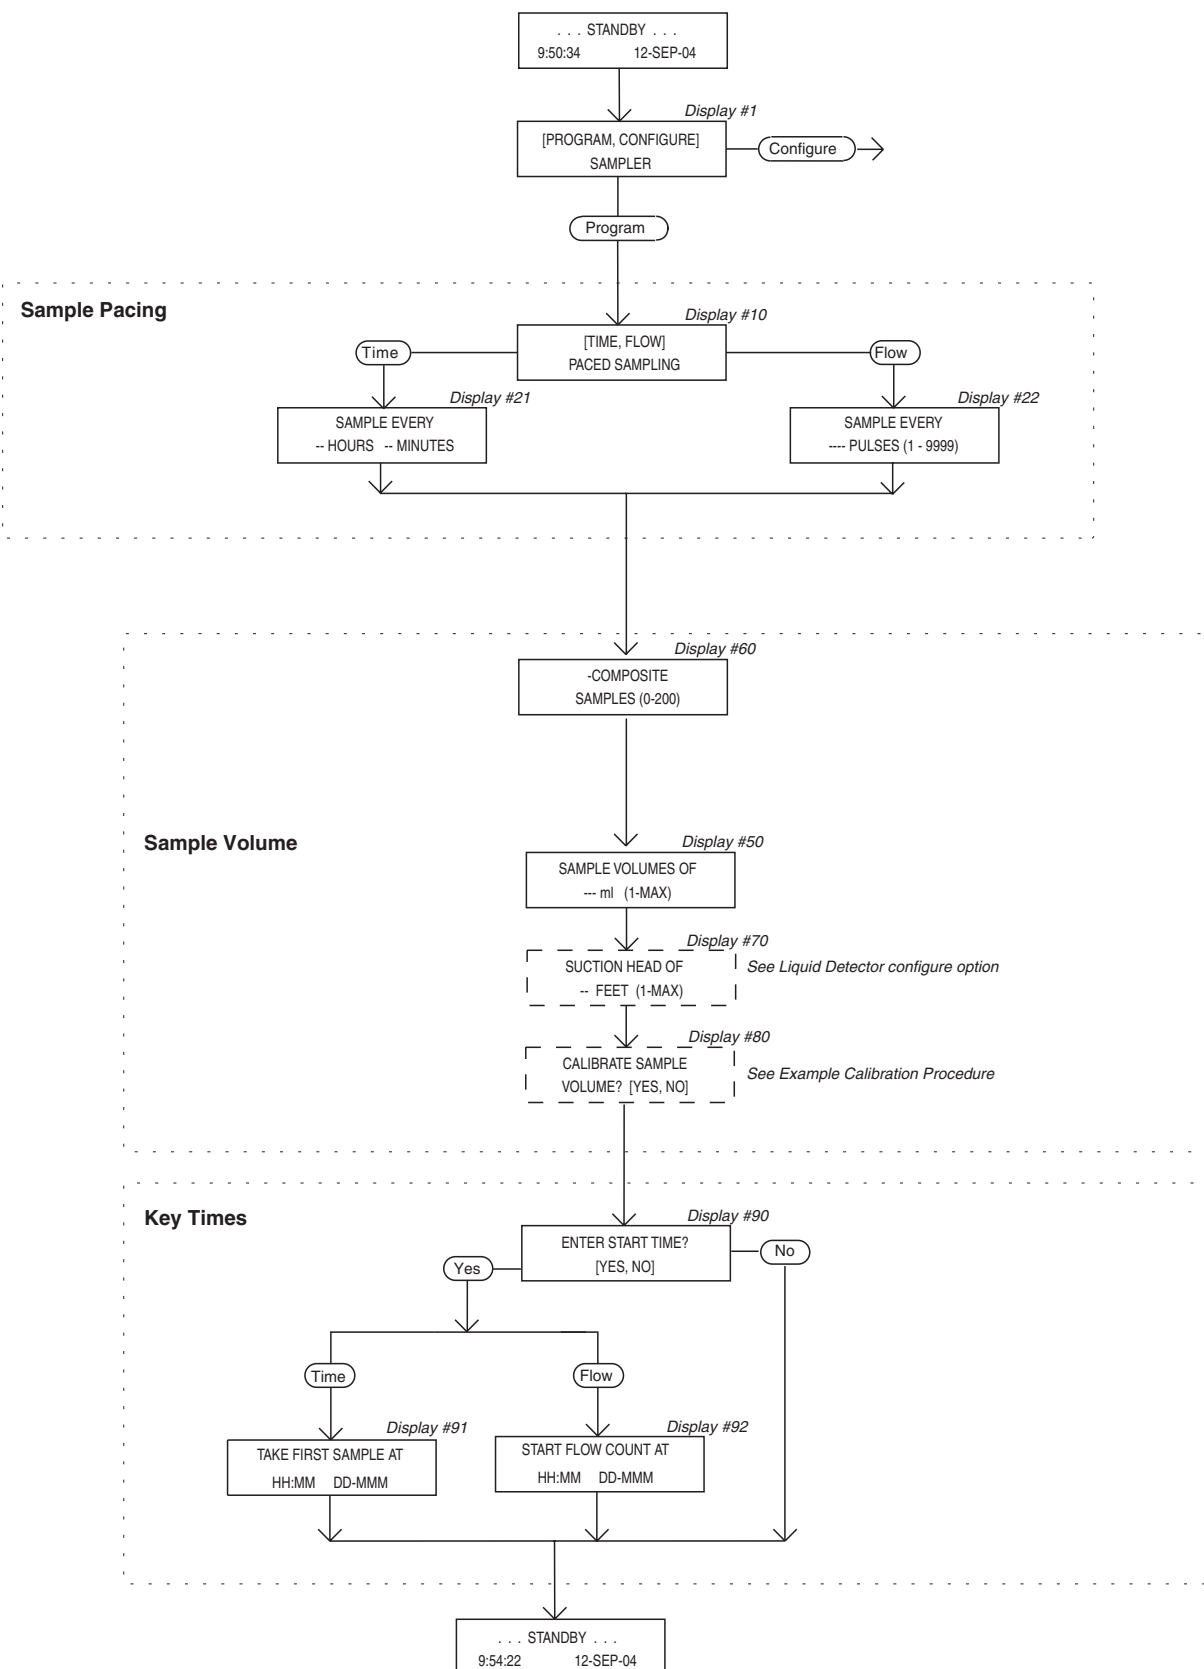

Figure 3-3 Basic Programming Mode: Program Sequence Structure
Examples for both programming modes are accompanied by flow charts. These charts diagram the program sequence structure for each mode. Figure 3-3 charts the Basic Programming Mode structure. Figure 3-5 charts the structure of the Extended Programming Mode. The charts are provided to act as a “map” to the programming process. Both charts are divided into sections – Sample Pacing, Sample Volume, and Key Times –which correspond to the steps listed in the procedure discussed below. Each chart contains the input displays used in the sequence. The input displays on each chart are labeled with their display number so they can be cross-referenced with the listing found in Appendix D.
2. Press the ENTER/PROGRAM key to access the interactive state. Select “PROGRAM.” Refer to Figure 3-3 for displays noted in steps 3 - 6.